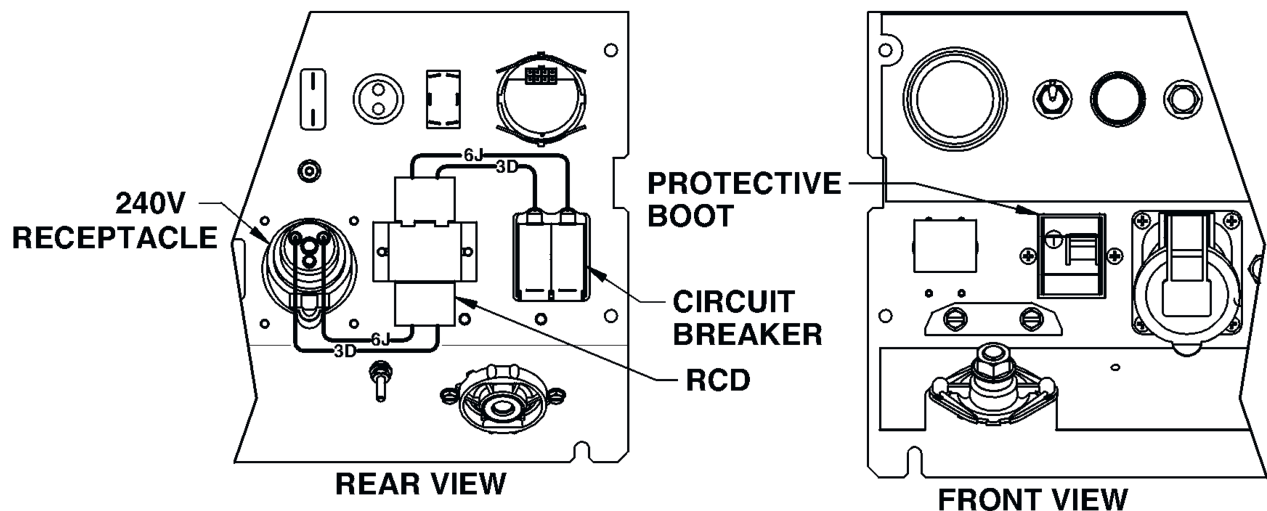

FIGURE 3
6. CONNECT LEADS FROM CIRCUIT BREAKER & RECEPTACE TO RCD AS SHOWN & TIGHTEN LEADS TO 2.4NM (21 in-lb). (SEE FIGURE 3). NOTE LEAD CONFIGURATION. COAT AREA WHERE LEADS CONNECT TO RCD WITH A SILICONE RUBBER RTV SEALANT.